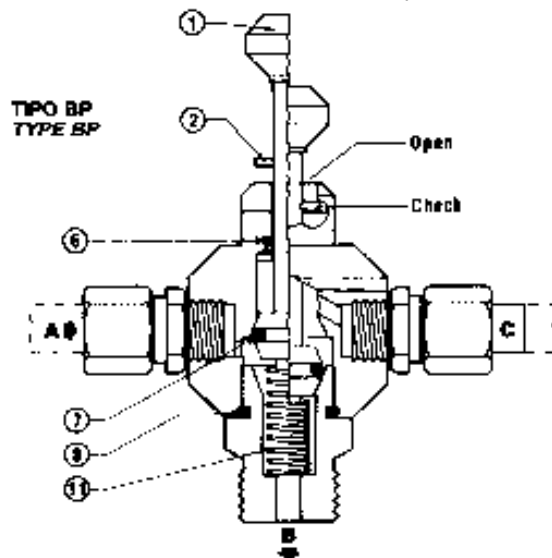

Fig. 5
3.1 VALVOLA DEVIATRICE A TRE VIE "PUSH" (FIG. 5)
3.1 "PUSH" THREE-WAYS SWITCH VALVE (FIG. 5)